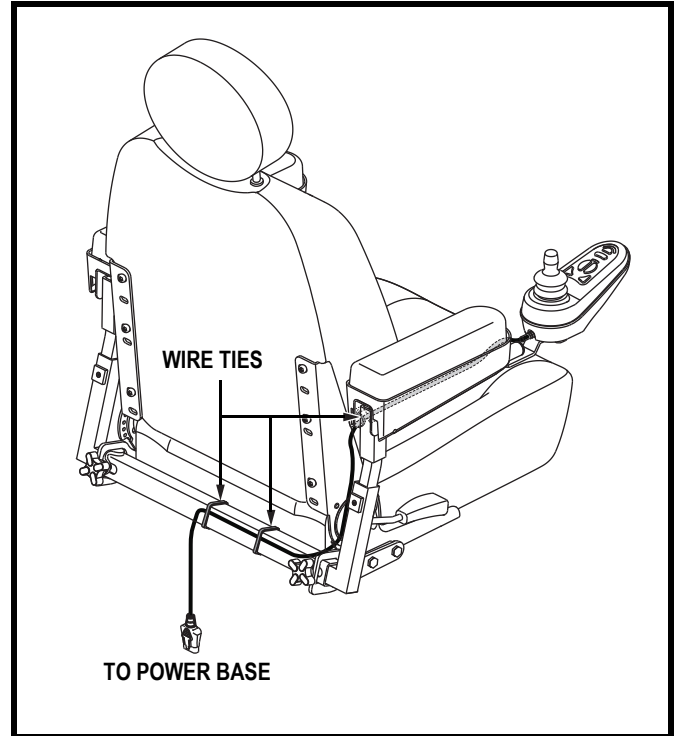

Figure 13. Controller Routed on a Contour Seat
8. Secure the controller harness to the armrest receiver with wire ties (contour seats only). See figure 13.